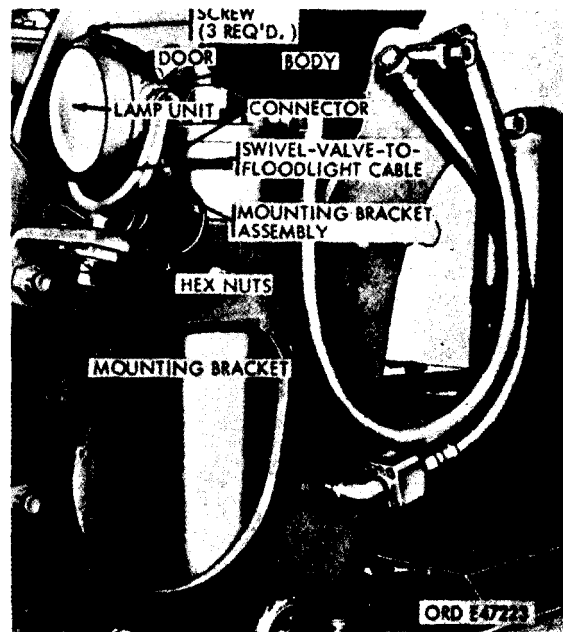

Figure 435. Floodlight mounted on left side of shipper support (M62)
- (1) Lamp unit replacement (fig. 435).
- (b) Disconnect two bayonet-type connectors (fig. 435) securing floodlight cables to rear of floodlight.
- (c) Remove two screws securing contact bracket and switch assembly to inside of floodlight body (fig. 435). Remove bracket and switch assembly (with cables) from body.
- (d) Position contact bracket and switch assembly in floodlight body (fig. 435), and secure bracket to body with two screws.
- (e) Connect two floodlight cable bayonet-type connectors (fig. 435) to connectors at rear of flood light.
(4) *Floodlight removal* (floodlight mounted at shipper support, illustrated) (fig. 435).
(5) *Floodlight installation* (floodlight mounted at shipper support, illustrated) (fig. 435).